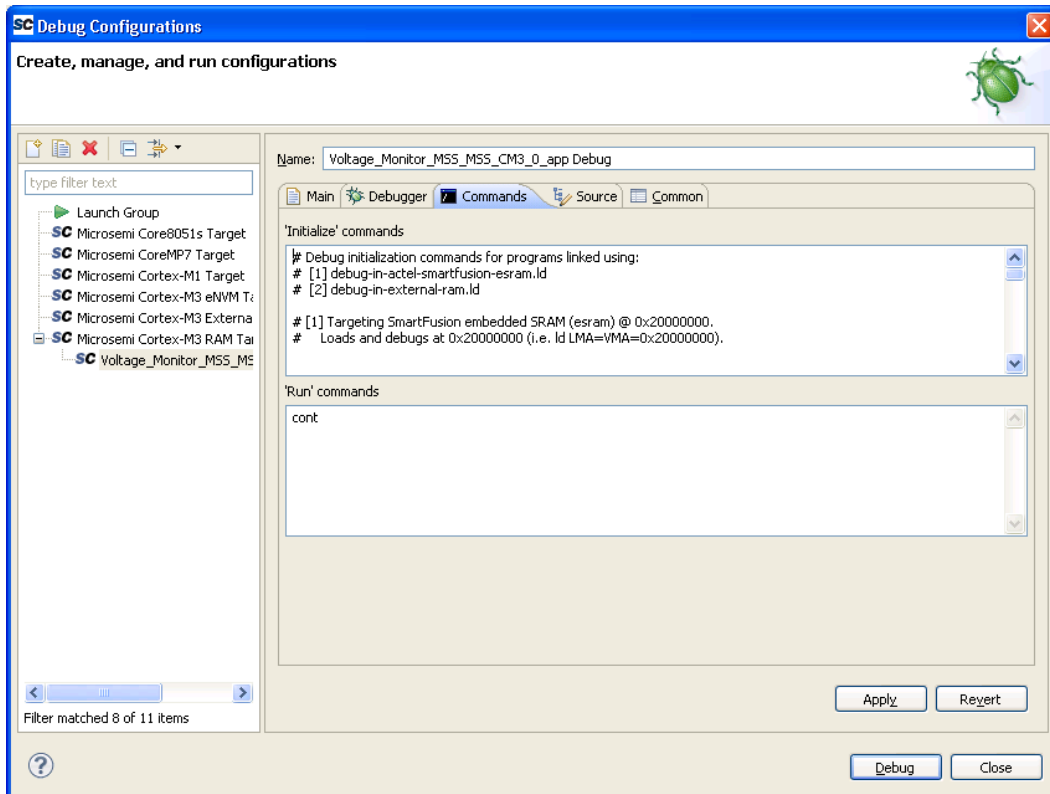

Figure 39 · Debugger Commands
4. Select the **Commands** tab. Confirm that commands appear in the Initialize and Run command sections, as shown in Figure 39 :